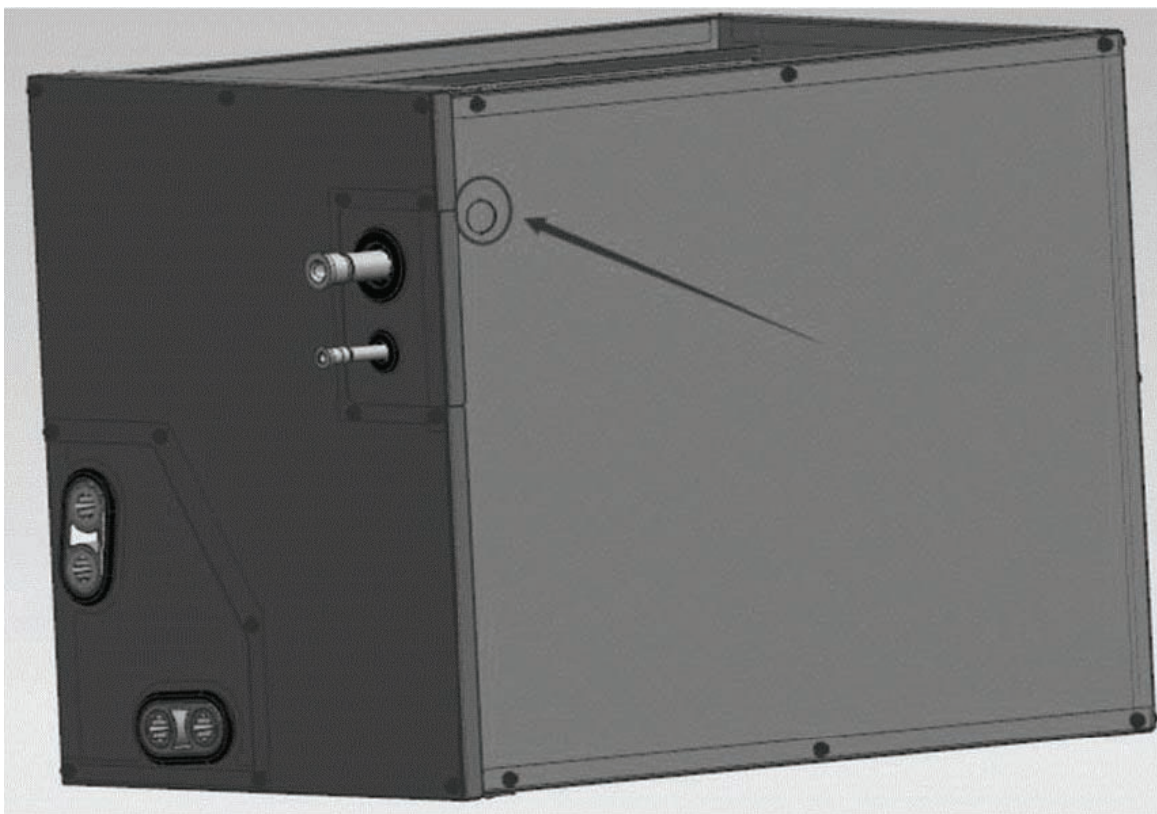

Fig. 3 — T2 Drill Point Location
1. Locate the marking on the coil cabinet for marking. If there is no marking, the location for drilling will be the upper left or upper right side of cabinet depending on install orientation (see Fig 3).